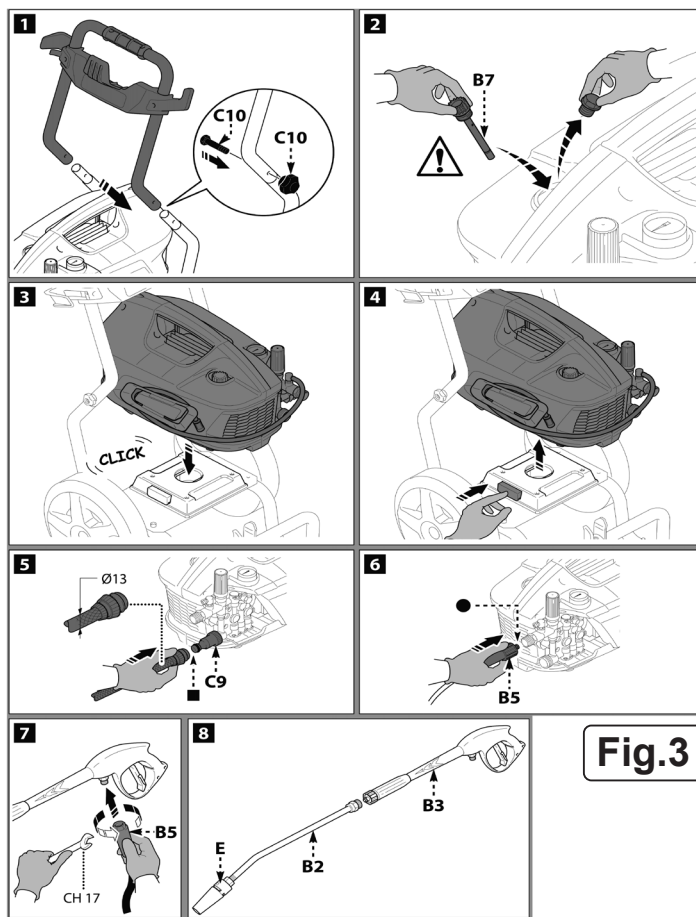
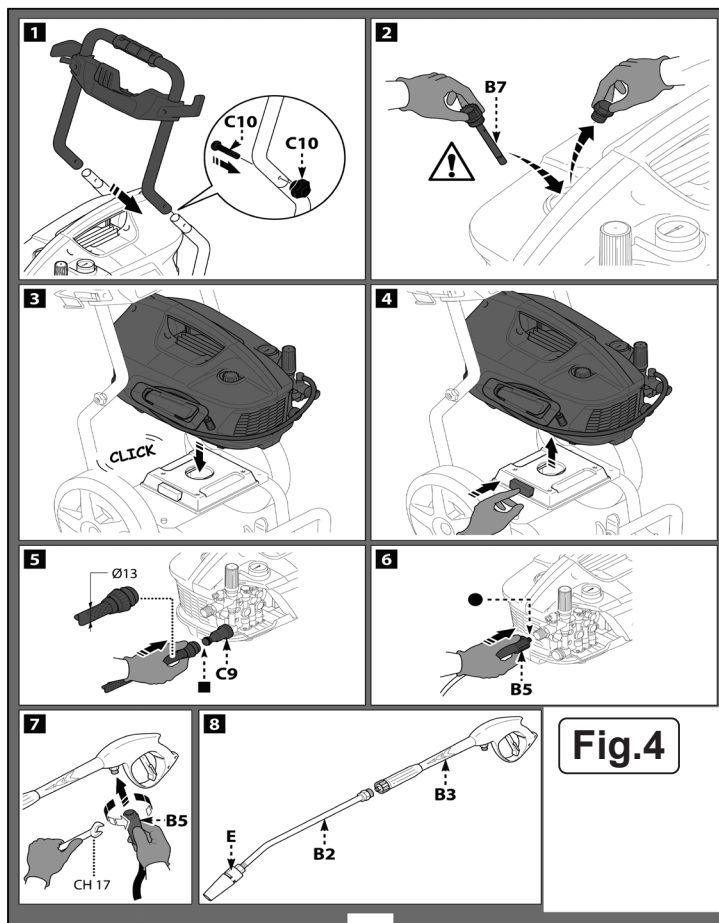

Fig.3
Fig.4
- 4.2. FIT HANDLE** (fig.1 C3) using the supplied bolts and thumb wheels (fig.1 C10, fig.3 C10).
- 4.3.** Remove the red travel plug from the motor body (fig.3 - 2). Insert the Oil Cap and Dip Stick (fig.1 B7, fig.3.2 B7) and check the oil level. Top up to 'full' mark on stick if necessary.
- 6.4. **REFILLING THE OIL** (for models with this feature) (fig.3 B7, fig.4 2).